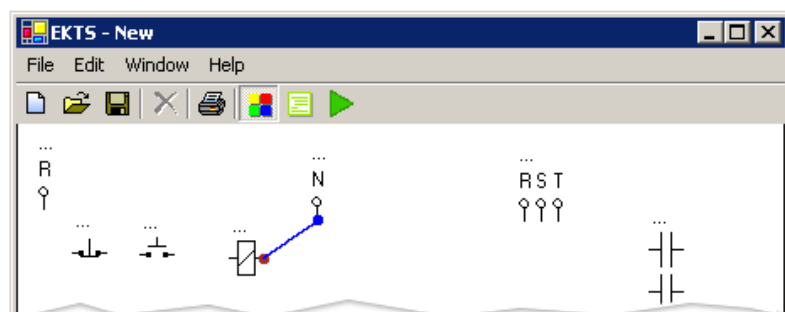

Figure 7 Red and Blue Dots Appeared for Making Connections.
3. Get close to the other connection point of the element, line or node until blue dot appears. (Figure 7)